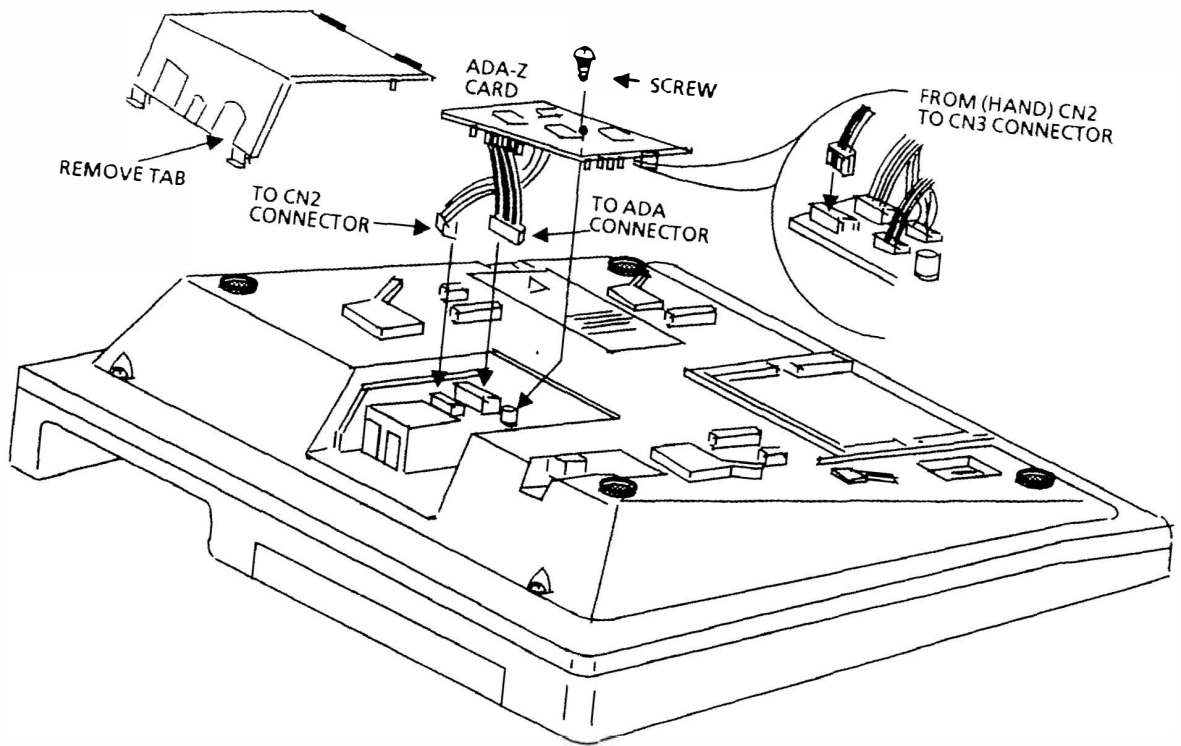

Figure 2 ADA-Z Unit Installation
6.11 Install the ADA-Z unit with the component side down ensuring the wires are not pinched. Secure the ADA-Z unit to the terminal housing with the screw provided as shown in Figure 2.